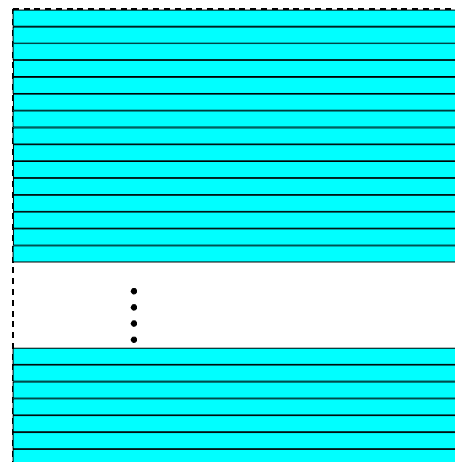

Fig. 118: Decimation Disabled
- 1: the complete frame will be transmitted out of the camera (no vertical decimation is realized); see Figure 118.